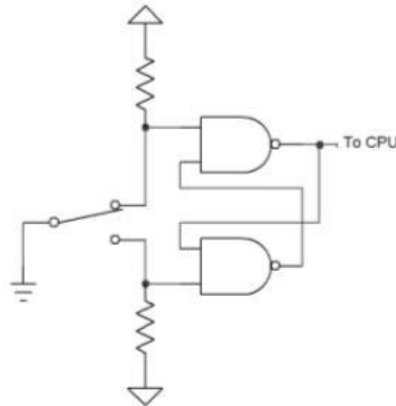

Figure 1: The SR debouncer
Figure 1 shows the basic arrangement. A resistor pulls a capacitor up to 5 volts (or whatever your positive supply voltage is if you're using CMOS. Up to 15 volts) Because of the time coefficient of the capacitor and resistor, this takes time to occur. The bigger the capacitor or resistor, the longer it takes. Placed at the junction of the resistor and capacitor, the momentary press button pulls the capacitor to ground. It doesn't short out the power supply because of the resistor. When the switch is made, the voltage on the capacitor falls away very rapidly to nothing, or near nothing depending on the switch. (That's another story and I'll get to that) When the switch is released the potential across the capacitor is charged up again slowly by the resistor. The charge/discharge rate is a smooth logarithmic curve. One faster than the other.
Figure 1 shows the classic debounce circuit. Two cross-coupled NAND gates form a very simple Set-Reset (SR) latch. The design requires a double-throw switch. Two pull-up resistors generate a logic one for the gates; the switch pulls one of the inputs to ground.